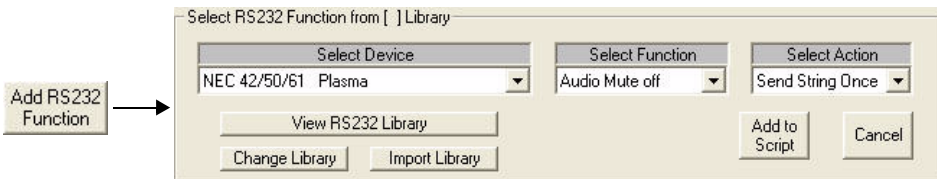

FIG. 57 Select RS232 Function window
2. Click the **Add RS232 Function** button in the Command Bar to invoke the *Select RS232 Function* window, indicating the currently selected RS232 Library (FIG. 57).
1. Click the **Add New Function** Command Bar button (see FIG. 57 on page 39). This opens the *AMX RS232 Libraries* dialog.
- Click the **Add IR Function** button in the Command Bar to invoke the *Select IR Function* window, indicating the currently selected IR Library (FIG. 57).